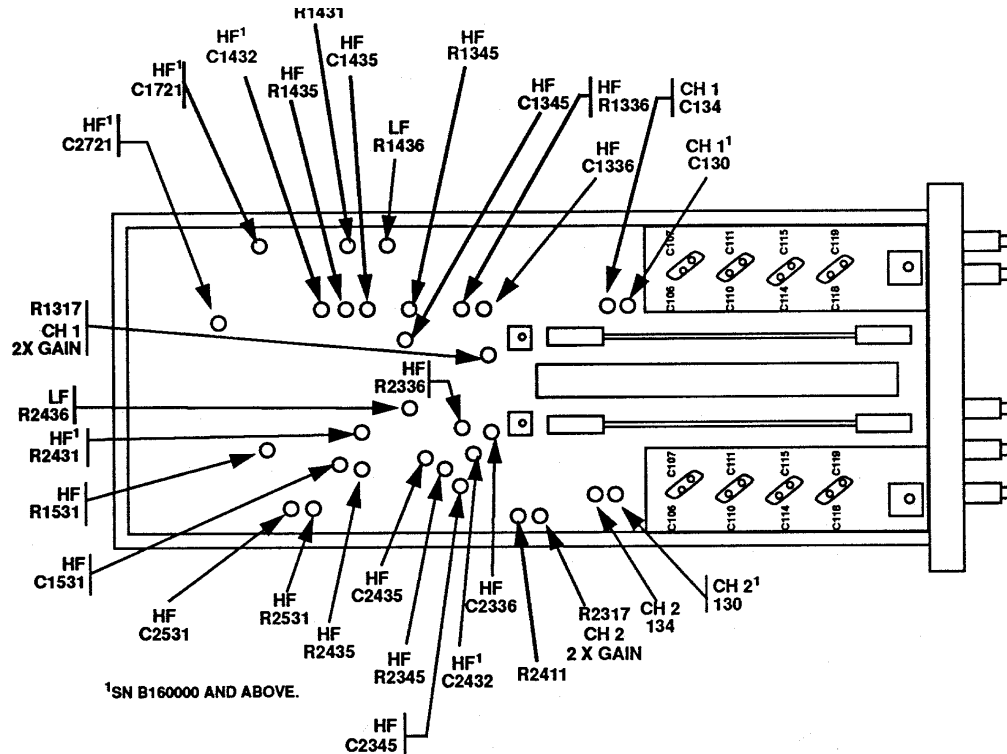

Figure 3. AM-6785/U and Tektronix, Type 7A26 - left side view.
(16) Connect oscilloscope calibrator **CHAN 1** to TI **CH 1** using a 50Ω feedthrough termination. Ensure oscilloscope calibrator **CHAN 1** output is selected by using technique in step (1) above.
(17) Set **DISPLAY MODE** switch to **CH 1** and **CH 1 VOLTS/DIV** switch to **10 mV**.
(18) Set oscilloscope calibrator to **EDGE**, and output a 60 mV, 1 kHz output.
(19) Adjust **CH 1 POSITION** and time base controls as necessary to view display.
(20) Rotate oscilloscope calibrator knob located below **EDIT FIELD** pushbutton to obtain 6 divisions on oscilloscope display. If displayed waveform does not have flat tops, perform **b(13)** below (**CH 2, b(14)** below).
(21) Remove 50Ω feedthrough termination from oscilloscope calibrator **CHAN 1** and **TI CH 1**. Reconnect oscilloscope calibrator **CHAN 1** to TI **CH 1** using a 5-80 pF standardizer. Rotate oscilloscope calibrator knob located below **EDIT FIELD** pushbutton to obtain 6 divisions 6 divisions of vertical display.
(22) Adjust standardizer for optimum square corner and flat top. If standardizer cannot be adjusted for optimum square wave, adjust **CH 1 C134** (fig. 3) (**CH 1 C130** (fig. 3) for **SN B160000** and above) to midrange and readjust standardizer for optimum square wave.
| VOLTS/DIV switch settings | CH 1 and CH 2 adjustments (fig. 3) ¹ | |
(1) Ensure oscilloscope calibrator output and TI **VOLTS/DIV** switch setting is set as indicated in first row of table 8.
(2) Adjust **CH 1 GAIN** (front panel) for 4 divisions of amplitude.
(3) Set **CH 1 VOLTS/DIV** switch to **10 mV** and oscilloscope calibrator output for 50 mV.
(4) Adjust R1317 CH 1 2X GAIN (fig. 3) for 5 divisions of amplitude (R).
(5) Ensure oscilloscope calibrator output and TI **VOLTS/DIV** switch setting is set as indicated in first row of table 9.
(6) Adjust **CH 2 GAIN** control (front panel) for 4 divisions of amplitude.
(7) Set **CH 2 AC-GND-DC** switch to **AC**.
(8) Adjust R2411 (fig. 3) polarity gain for minimum gain change while switching **CH 2 POLARITY** switch between **+UP** and **INVERT**.
(9) Set **CH 2 AC-GND-DC** switch to **DC** and repeat (6) through (8) above until no further adjustments are needed.
(10) Set **CH 2 AC-GND-DC** switch **DC** and **VOLTS/DIV** switch to **10 mV**.
(11) Set oscilloscope calibrator output controls for 50 mV at 1 kHz.
(12) Adjust R2317 CH 2 2X GAIN (fig. 3) for **5** divisions of amplitude (R).
(13) Adjust LF R1436 and R1431 (LF R1436 for SN 159999 and below) (fig. 3) for best flat top (minimum tilt) (R).
(14) Adjust LF R2436 and HF R2431 (LF R2436 for SN 159999 and below) (fig. 3) for best flat top (minimum tilt) (R).
(1) Adjust HF C1336, HF R1336, HF C1432, HF C1435, HF R1435, HF C1531, HF R1531, HF C1345, and HF R1345 (fig. 3) for optimum front corner and flat top (R).
(2) Adjust HF C2336, HF R2336, HF C2432, HF C2435, HF R2435, HF C2531, HF R2531, HF C2345, and HF R2345 (fig. 3) for optimum front corner and flat top (R).